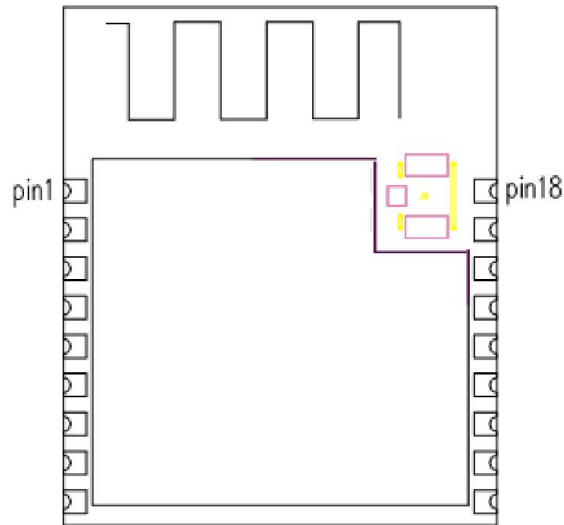

Figure 2
- The copper needs to be removed from the bottom plate corresponding to the red area in Figure 2. The larger the area, the less the impact on the antenna and the better the performance.